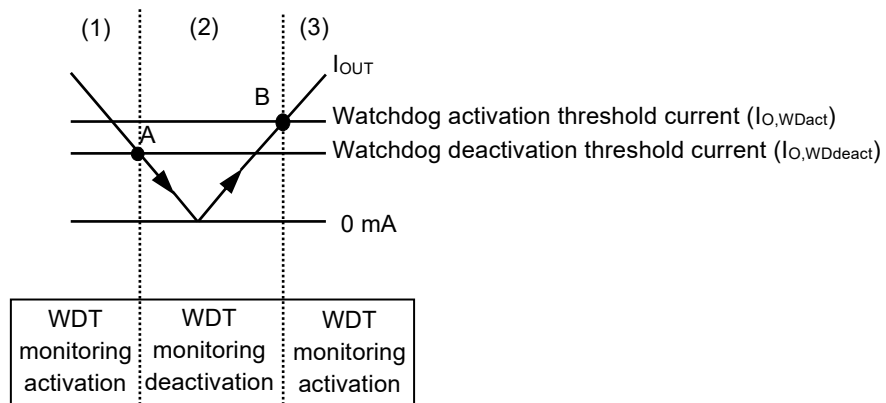

Figure 45 Autonomous Watchdog Operation Function
- (1) When I_{OUT} of the regulator is the watchdog activation threshold current ($I_{O,WDact}$) or more, the input voltage (V_{WDact}) of comparator (C1) is higher than the reference voltage (V_{ref}), and the output of C1 is "H". At this time, the watchdog timer activated.
- (2) When I_{OUT} decreases to the watchdog deactivation threshold current ($I_{O,WDdeact}$) (point A in **Figure 45**) or less, V_{WDact} decreases to V_{ref} or less and the output of C1 is "L". At this time, the watchdog timer deactivates the monitoring. Even if I_{OUT} increases, the watchdog timer continues the monitoring deactivation when I_{OUT} is within less than $I_{O,WDact}$.
- (3) If I_{OUT} further increases to $I_{O,WDact}$ (point B in **Figure 45**) or more, V_{WDact} increases to V_{ref} or higher and the output of C1 is "H". And then, the watchdog timer initiates the monitoring activation.